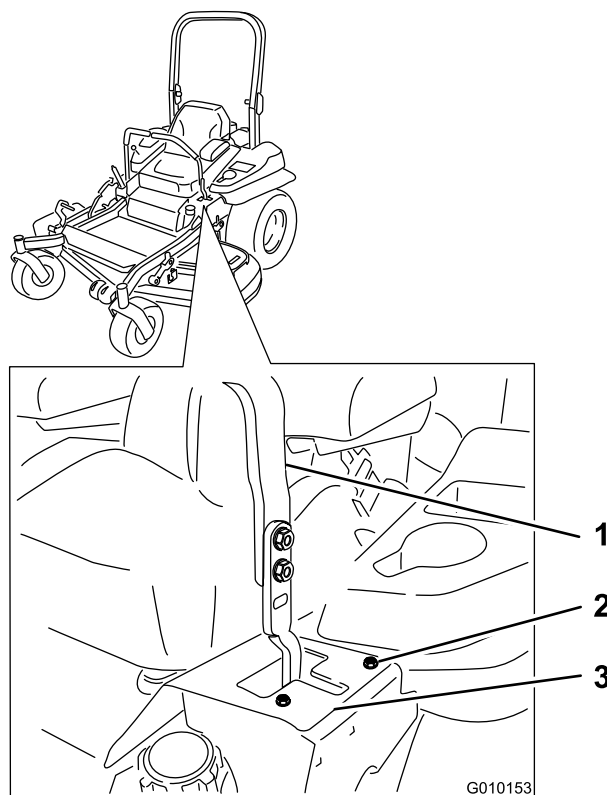

Figure 76
- If the machine tracks to the right, loosen the bolts and adjust the left stop plate rearward on the left T-slot until the machine tracks straight (Figure 76).
- If the machine tracks to the left, loosen the bolts and adjust the right stop plate rearward on the right T-slot until the machine tracks straight (Figure 76).
8. Tighten the stop plate (Figure 76).